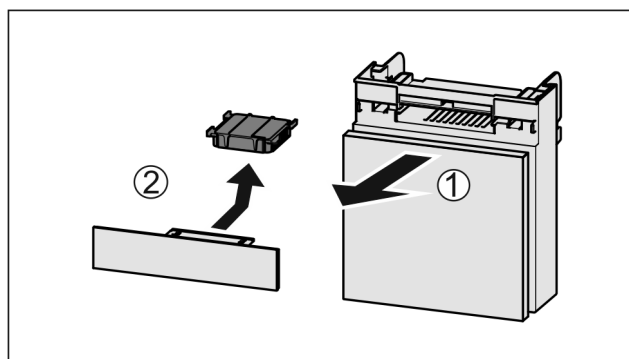

Fig. 31
- ▶ Pull out the compartment Fig. 31 (1).
- ▶ Remove the carbon filter Fig. 31 (2).